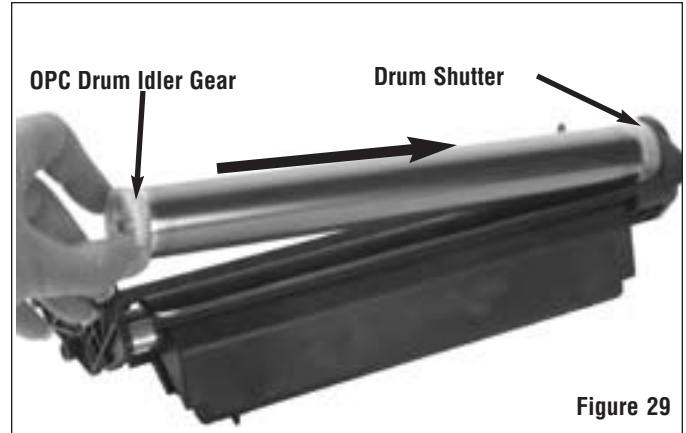

Figure 29
- b. Insert the drive side of the OPC Drum in to the cartridge body first as shown in figure 29.